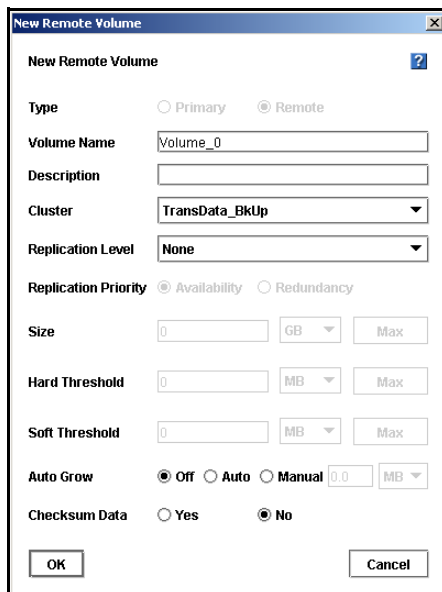

Figure 239. Creating a New Remote Volume
3. Select a cluster for the remote volume and click OK. The New Volume window opens, shown in Figure 239. See Chapter 12, “Working with Volumes.” for detailed information about creating volumes.